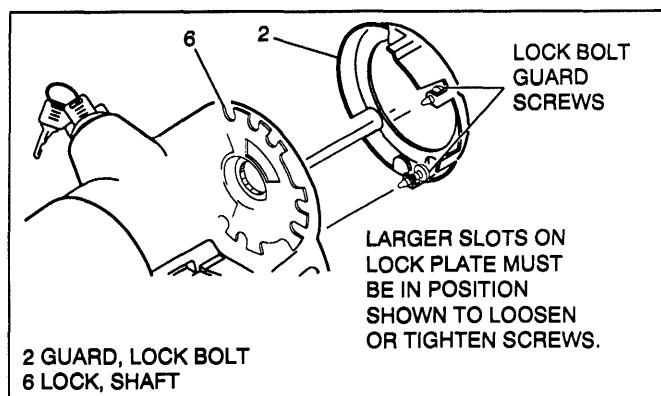

Figure 3 - Removing Lock Bolt Guard
- Lock bolt guard (2). (See Figure 3)
- Rotate shaft (55) until block tooth is at 7 o'clock position and bolt guard screws are accessible through wide slots in shaft lock (6).
- Loosen screws on lock bolt guard (2) until guard can be removed. (Screws will be retained with lock bolt guard (2)).
- Shaft lock retaining ring (5) using J 23653-C to push down shaft lock (6).
- Dispose of ring (5).
10. Inner race (14).
11. Upper bearing inner race seat (13).
12. Upper bearing spring (8).
13. Turn signal cancelling cam assembly (7).
14. Shaft lock (6).
15. New shaft lock retaining ring (5) using J 23653-C to push down shaft lock (6).
- Ring (5) must be firmly seated in groove on shaft.
16. Lock bolt guard (2). (See Figure 3)
- B. Rotate shaft (55) until block tooth is at 7 o'clock position and bolt guard screw holes are accessible through wide slots in shaft lock (6).
- C. Lock bolt guard (2) and tighten screws on guard until screw heads bottom out.